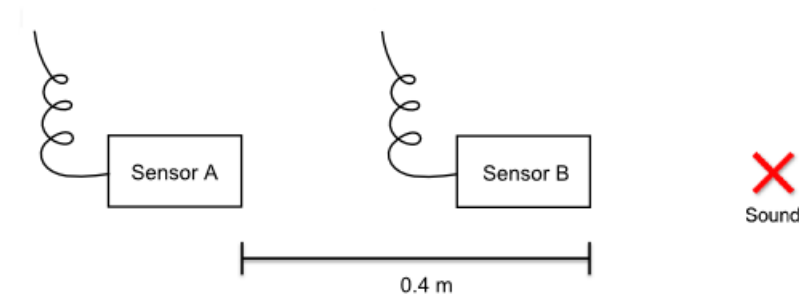

Figure 1
- See Figure 1 for an example of the arrangement. The idea is that the sound will take some amount of time to travel to sensor A, and a longer time to travel to sensor B, with the difference in times being the amount of time to traverse the 0.4 m separating them.